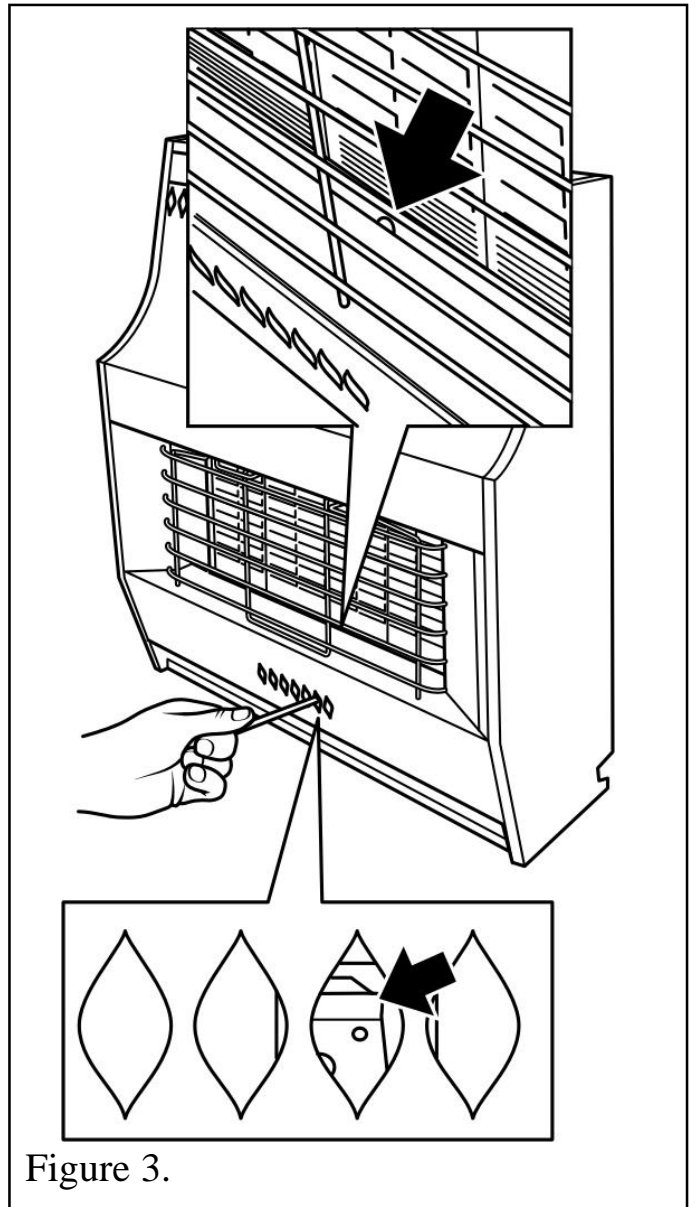

Figure 3.
Depress the control knob and turn anticlockwise towards the 1/IGN position. A spark should be generated at the pilot while turning. The spark should ignite the pilot. **If it does not**, keeping the knob depressed, continue to turn the knob anticlockwise. A **second** spark should ignite the pilot. The pilot flame can be seen through the opening immediately below the right hand centre radiant (See figure 3).
- Depress the control knob slightly and turn anticlockwise towards the 1/IGN position. Do not apply too much pressure as this will cause resistance to be felt. Depress the control knob. Sparks should be generated at the pilot. The sparks should ignite the pilot. If the pilot does not light, turn the control knob back to the 'OFF' position and try again. The pilot flame can be seen through the opening immediately below the right hand centre radiant (See figure 3).
While keeping the knob depressed, light the pilot by inserting a long match or taper into the opening as in figure 3.